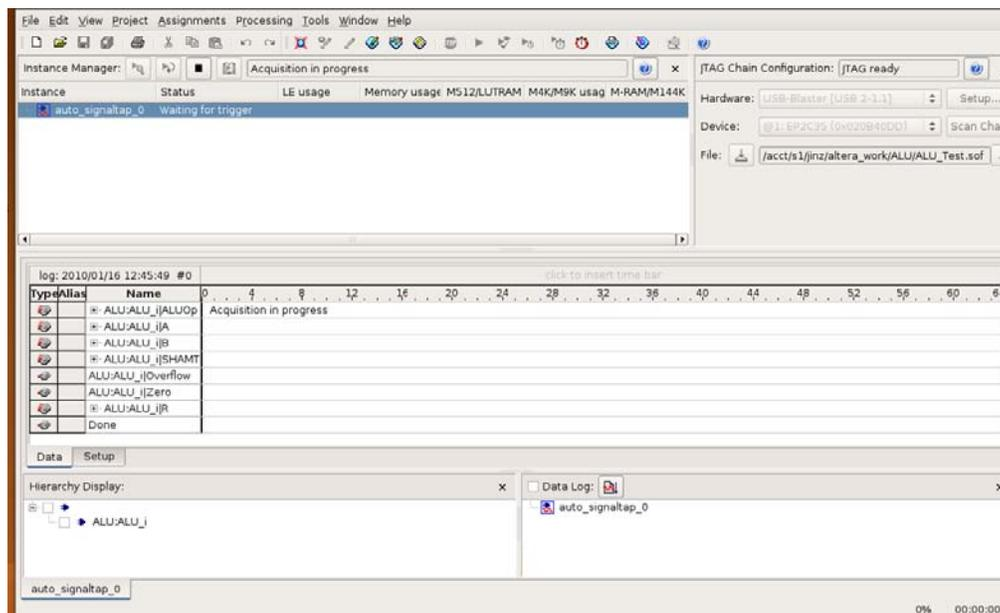

Figure 12-1. SignalTap II window after Run Analysis has been clicked.
1. Select **Processing > Autorun Analysis** or click the icon in the SignalTap window. Then, click on the **Data** tab of the SignalTap II Window. You should get a screen similar to Figure 12-1. Note that the status column of the SignalTap II Instance window says "Waiting for trigger." This is because the trigger condition has not yet been met.